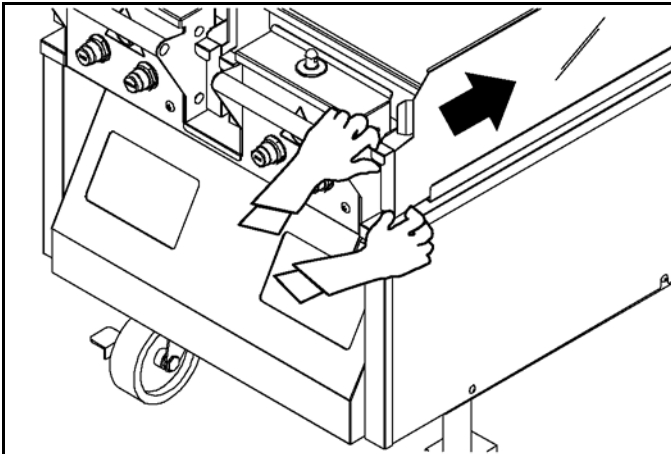

Figure-176
7. Remove and empty the grease cans, then rinse and reinstall. See Figure-176.